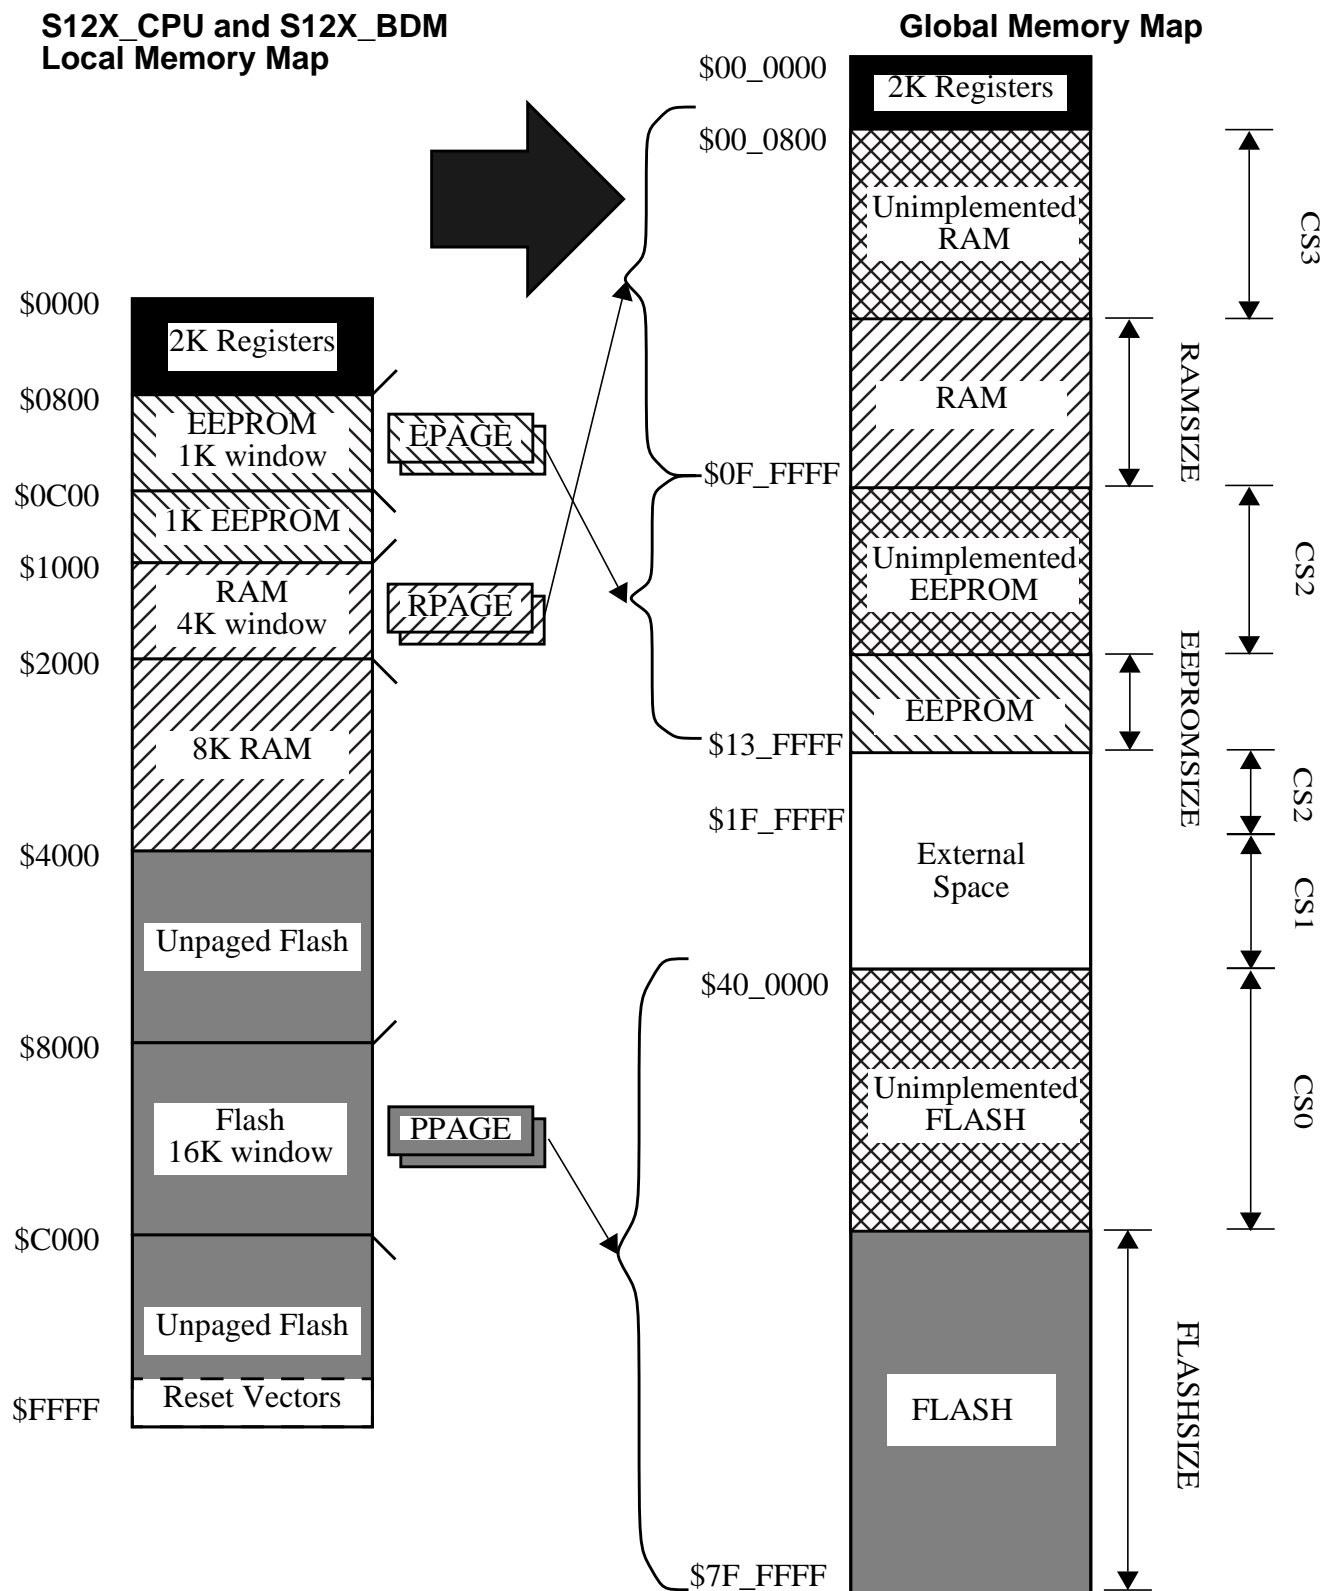

Figure 4-3 Local to Implemented Global Address Mapping (Without GPAGE)
1. The internal or the external bus is accessed based on the the size of the memory resources implemented on-chip. Please refer to **Figure 4-3** for further details.
The global memory spaces reserved for the internal resources (RAM, EEPROM and FLASH) are not determined by the S12X_MMC module. Size of the individual internal resources are however fixed in the design of the device cannot be changed by the user. Please refer to the Device User Guide for further details. Figure 4-3 and Table 4-2 show the memory spaces occupied by the on-chip resources. Please note that the memory spaces have fixed top addresses.
When the device is operating in expanded modes except emulation single-chip mode, accesses to the global addresses which are not occupied by the on-chip resources (unimplemented areas or External Space) result in accesses to the external bus (see Figure 4-3).
In single-chip modes an access to any of the unimplemented areas (see Figure 4-3) by the S12X_CPU (except firmware commands) results in an illegal access reset (system reset). The S12X_BDM accesses to the unimplemented areas are performed but the data is undefined.
The non internal resources (unimplemented areas or External Space) are used to generate the Chip selects (CS0,CS1,CS2 and CS3) (see Figure 4-3), which are only active in Normal Expanded Mode, Emulation Expanded Mode and Special Test Mode (see section 3.1.1).